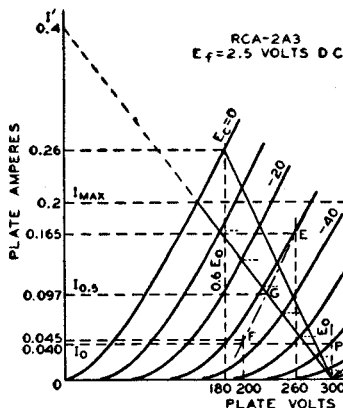
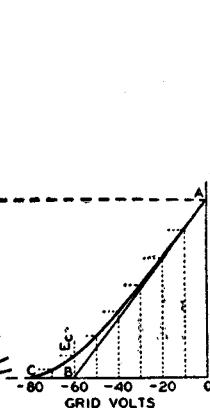

Fig. 25—Graphic calculations for class AB_1 amplifier using the 2A3 power triode.
Fig. 26—Instantaneous curve for class AB_1 amplifier.
point D in Fig. 25. Its position is not affected by the operating grid bias provided the plate-to-plate load resistance remains constant.
In general, for any load line through point D, Fig. 25, the plate-to-plate load resistance in ohms of a push-pull amplifier is $R_{pp} = 4E_o/I'$, where I' is the plate-current value in amperes at which the load line as projected intersects the plate-current axis, and E_o is in volts. This formula is another form of the one given under push-pull class A amplifiers, $R_{pp} = 4(E_o - 0.6E_o)/I_{max}$, but is more general. Power output $= (I_{max}/\sqrt{2})^2 \times R_{pp}/4$, where I_{max} is the peak plate current at zero grid volts for the load chosen. This formula simplified is $(I_{max})^2 \times R_{pp}/8$. The maximum-signal average plate current is $2I_{max}/\pi$ or $0.636 I_{max}$; the maximum-signal average power input is $0.636 I_{max} \times E_o$.
Example: Fig. 25 illustrates the application of this method to a pair of 2A3's operated at $E_o = 300$ volts. Each tube has a plate-dissipation rating of 15 watts. The method is to erect a vertical line at 0.6 E_o , or at 180 volts, which intersects the $E_o = 0$ curve at the point $I_{\max} = 0.26$ ampere. Using the simplified formulas, the following values are obtained:
The operating bias and the zero-signal plate current may then be found by use of a curve which is derived from the plate family and the load line. Fig. 26 is a curve of instantaneous values of plate current and dc grid-bias voltages taken from Fig. 25. Values of grid bias are read from each of the grid-bias curves of Fig. 25 along the load line and are transferred to Fig. 26 to produce the curved line from A to C. A tangent to this curve, starting at A, is drawn to intersect the grid-voltage abscissa. The point of intersection, B, is the operating grid bias for fixed-bias operation. In the example, the bias is -60 volts. Refer back to the plate family at the operating conditions of plate volts = 300 and grid bias = -60 volts; the zero-signal plate current per tube is seen to be 0.04 ampere.
tortion in a class AB₁ amplifier using triodes is very small and is largely canceled by virtue of the push-pull connection. Third-harmonic distortion, however, which may be larger than permissible, can be found by means of composite characteristic curves. A complete family of curves can be plotted, but for the present purpose only the one corresponding to a grid bias of one-half the peak grid-voltage swing is needed. In the example, the peak grid voltage per tube is 60 volts, and the half value is 30 volts. The composite curve, since it is nearly a straight line, can be constructed with only two points (see Fig. 25). These two points are obtained from deviations above and below the operating grid and plate voltages.
These steps provide points at 260 volts and 0.165 ampere (E), and at 200 volts and 0.045 ampere (F). A straight line through these points is the composite curve for a bias of -30 volts, shown as a long-short dash line in Fig. 25. At the intersection of the composite curve and the load line, G, the instantaneous composite plate current at the point of one-half the peak signal swing is determined. This current value, designated $I_{0.5}$ and the peak plate current, I_{max} , are used in the following formula